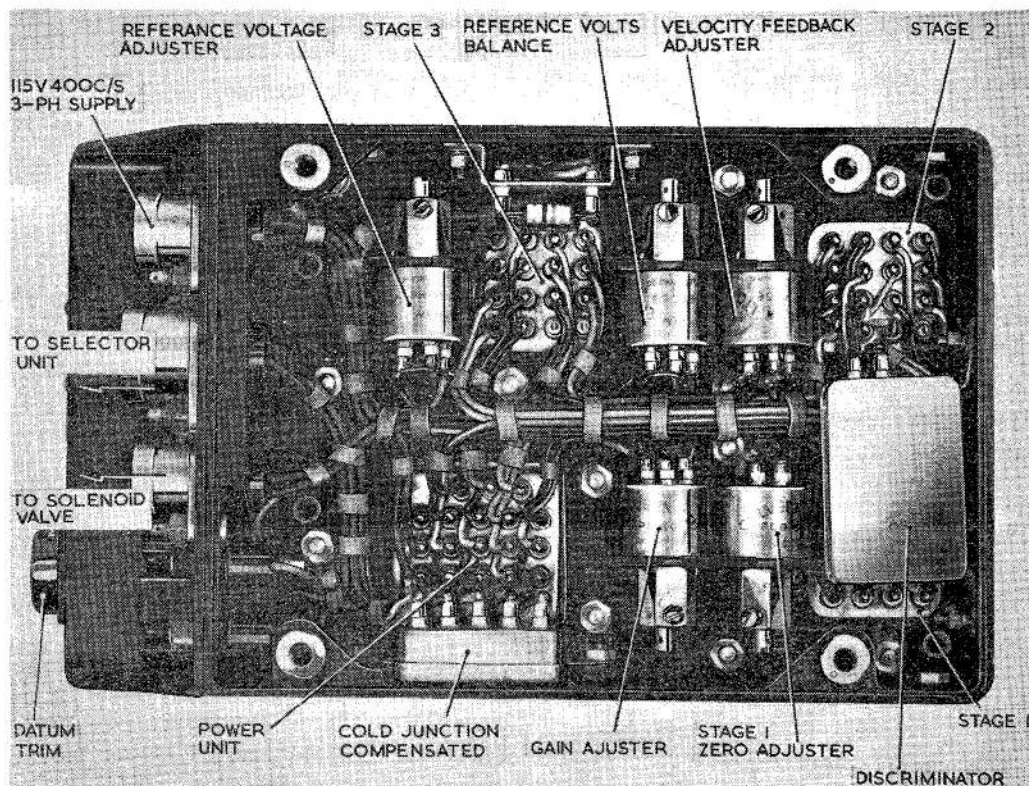

Fig 2. Underside of amplifier, with cover removed
4. Stage 1, stage 2, stage 3, the power unit, the cold junction compensator and the discriminator are all housed in separate sealed cans and can be seen on removal of the amplifier base plate (fig. 2). On the same casting are fitted the amplifier controls namely, gain, stage 1 zero, velocity feedback, and reference volts load and balance.